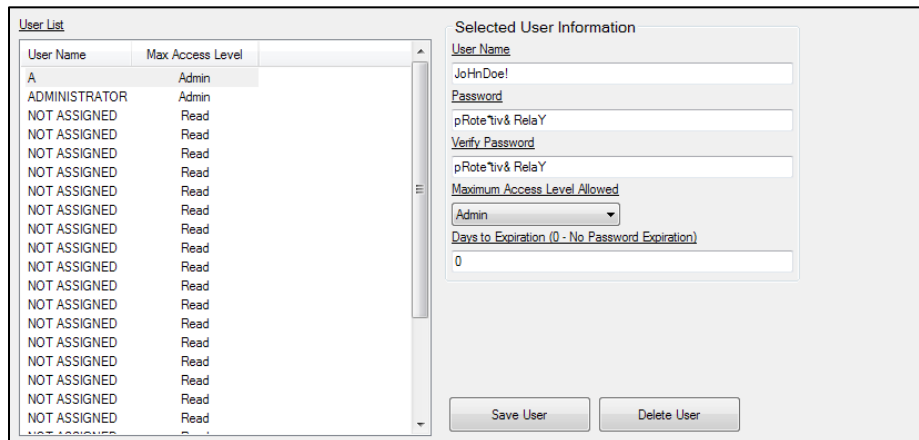

Figure 47-2. Username Setup Screen
3. Only an administrator can modify usernames and passwords on the Username Setup screen (Figure 47-2). Complex usernames and passwords up to 16 characters in length are accepted. Acceptable characters include uppercase letters, lowercase letters, numbers, and certain special characters.